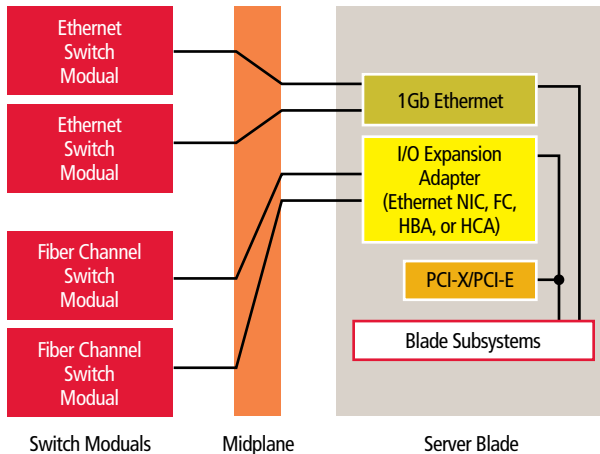

Figure 5
Blades support a number of networking options for IP-based networking via Ethernet, Fibre Channel (FC)-based networking and high speed low-latency InfiniBand (IB). Every blade comes with at least one 1-gigabit Ethernet (1GbE) network interface card (NIC) standard for management and lights-out operations and some number of expansion slots for additional network capabilities. These networking options are supported primarily through mezzanine (or daughter) cards that attach to the blade. Each blade has support for some number of PCI express expansion slots, e.g., the HP Proliant BL480c blade server supports three expansion slots. The network signals are carried through the midplane to switch modules, pass-thru modules or to HP's Virtual Connect module on the other side of the midplane (see Figure 5 on page 6).